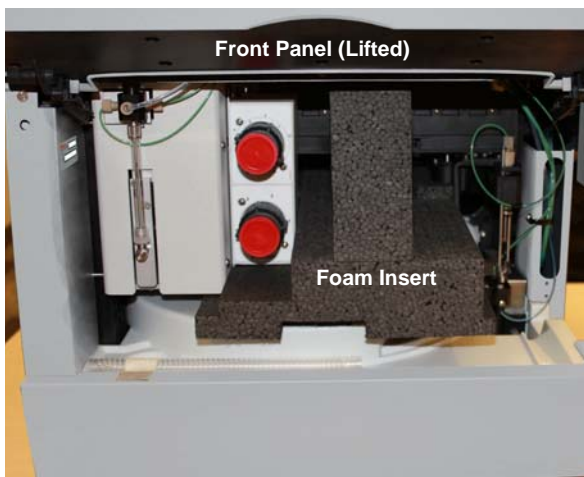
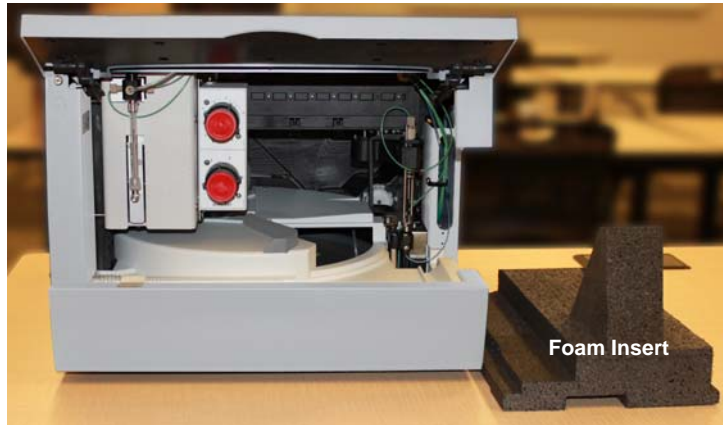

Figure 2-5. Dionex AS-AP with Foam Insert for Protecting the Needle Arm and Carousel (Dionex AS-AP with Optional Valves Shown)
Figure 2-6. Dionex AS-AP with Foam Insert Removed
8. Lift up the Dionex AS-AP front panel (see Figure 2-5) and pull out the foam insert that secures the needle arm and carousel cover during shipment (see Figure 2-6).